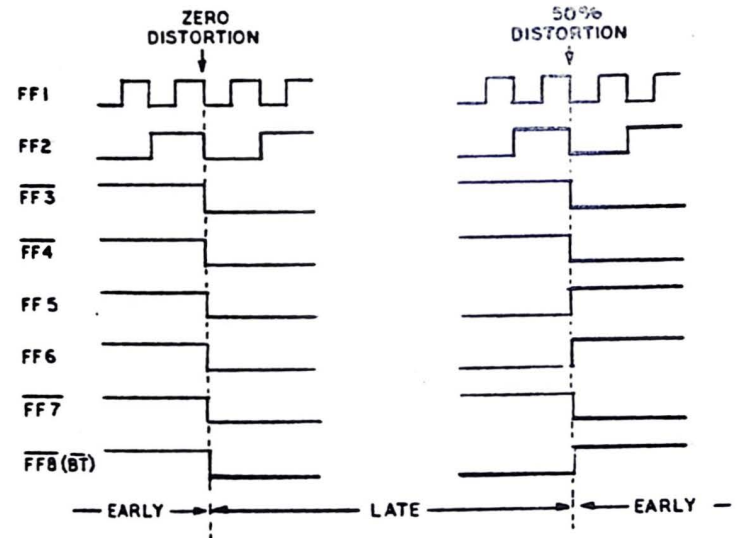

Fig. 18 - Distortion Counter Timing
#### Transfer Gates (Fig. 18 and 32)
3.48 Since BT is low during count zero to 49 and high during count 50 to 99, transfer gates G7 through G20 alternately connect the upcount and downcount (Fig. 18) to the S-inputs of distortion register FF2 through FF8. The BCD count applied to the S-inputs of the distortion register, therefore, steps repeatedly from 50 to zero to 50.
#### Distortion Register Circuits (Fig. 18 and 32)
3.51 Note in Fig. 18 that the distortion counter counts correctly from zero to 49 (late distortion) but then steps to count 49 again, skipping count 50. On the downcount from 49 to zero (early distortion), the counter, therefore, always registers one count short. For example, if an MS transition is displaced 20 per cent in advance (early) of its ideal time position, the count transferred will be 19 (one count short). To compensate for early distortion measurement, FF9 in the distortion register adds to a steady count of one to the D/A converter during the entire downcount.